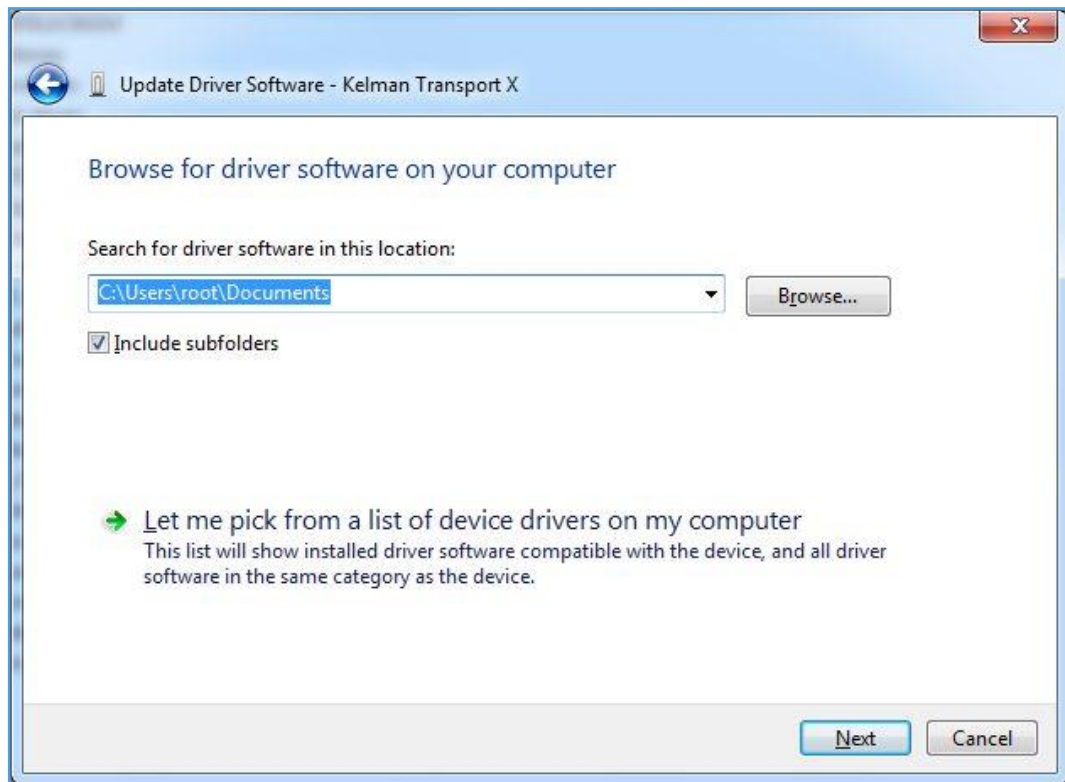

Figure A-12: Browse for driver software
- Select **Let me pick from a list of device drivers on my computer** as shown in Figure A-12.